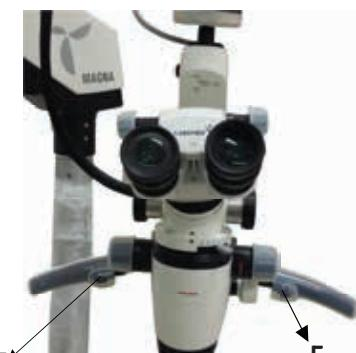

Fig. 16
- Articulation of Auto Balancing Arm (ABA) can be handled through two clutch release buttons located on left side (E) and right side (F) of carrier arm as shown in Fig. 16.